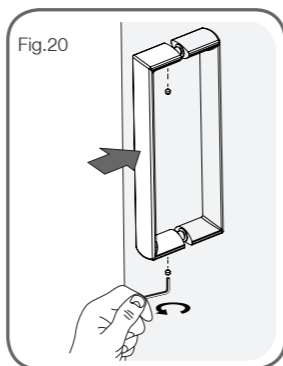

Fig.20
4. Position the other handle onto the brass fixing bosses and secure using the grub screws (See Fig.20). DO NOT leave the handle in position without securing it with the grub screws as it could fall off and damage the shower tray.